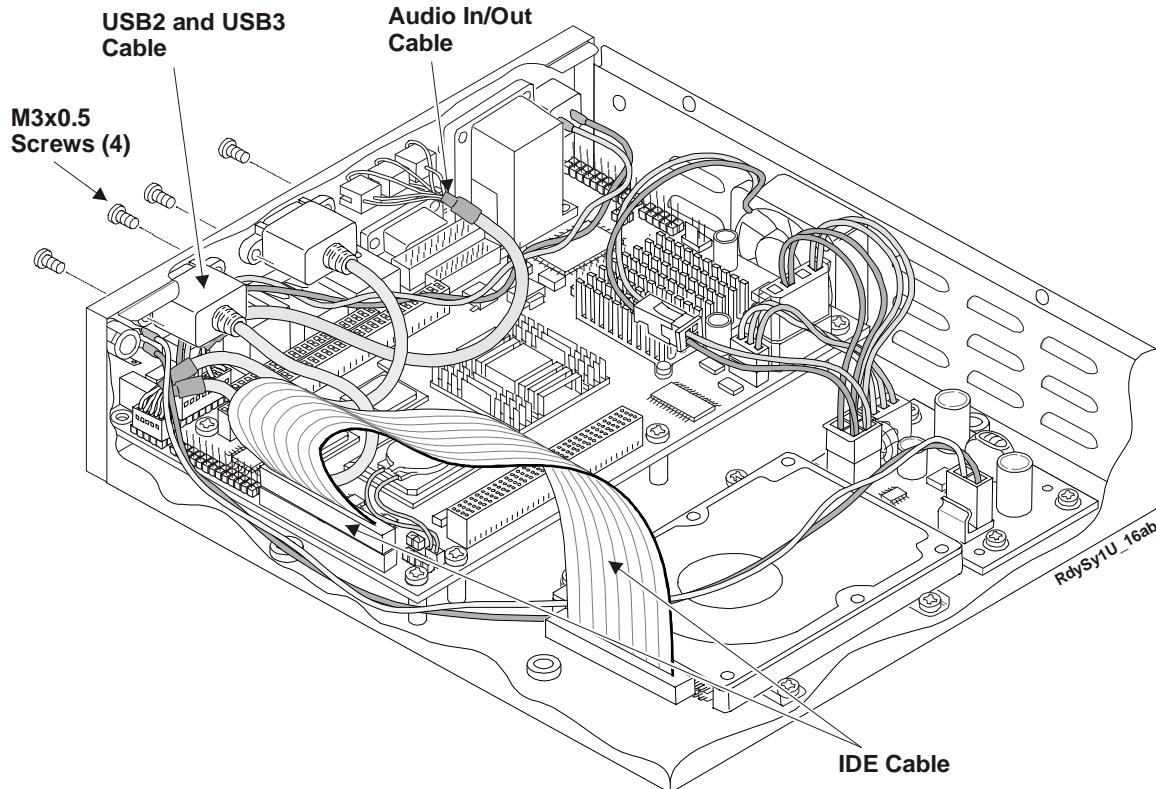

Figure 2-12. Installing IDE, Audio, and USB Cables
1. Reconnect USB2 & USB3 cables to the USB2 & USB3 openings in the I/O panel as shown in Figure 2-12.
- ◆ If you also disconnected the IDE cable from the hard disk drive (HDD) earlier, then re-connect it to the IDE connector on the HDD. The red strip on the cable should match with pin-1 on the HDD and is typically located next to the jumper settings on the HDD. See Figure 2-12.